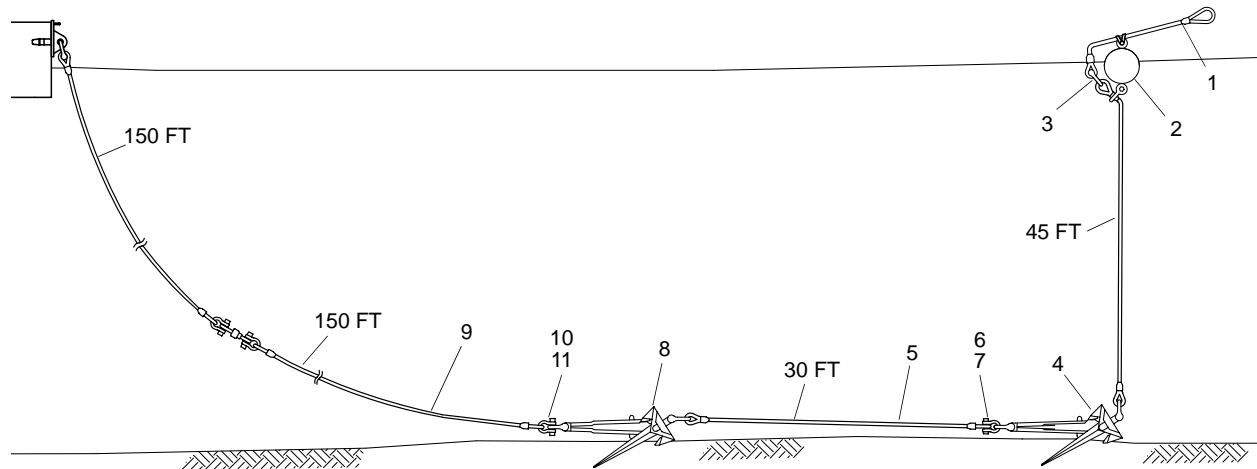

Figure 12. Offshore Mooring Leg Assembly
2. From the WT, use a boat hook to retrieve the 10 ft anchor buoy cable (figure 12, item 1) and buoy (figure 12, item 2) and place them on the WT forward deck.
3. Attach buoy shackle (figure 12, item 3) to WT forward winch cable.
4. Using WT winch, raise first anchor (figure 12, item 4) and position on WT deck.
5. Disconnect WT forward winch cable from buoy shackle (figure 12, item 3).
6. Connect WT forward winch cable to eye of 30 ft anchor-to-anchor cable (figure 12, item 5).
7. Remove pin (figure 12, item 6) and shackle (figure 12, item 7) between first anchor (figure 12, item 4) and 30 ft anchor-to-anchor cable (figure 12, item 5).
8. Using WT winch, raise second anchor (figure 12, item 8) and position on WT deck.
9. Remove WT forward winch cable from eye of 30 ft anchor-to-anchor cable (figure 12, item 5).
10. Connect WT forward winch cable to eye of 300 ft cable (figure 12, item 9).
11. Remove pin (figure 12, item 10) and shackle (figure 12, item 11) between second anchor (figure 12, item 8) and 300 ft cable (figure 12, item 9).
15. Using WT winch, raise 300 ft cable (figure 12, item 9) and position on WT deck.
16. Remove WT forward winch cable from eye of 300 ft cable (figure 12, item 9).